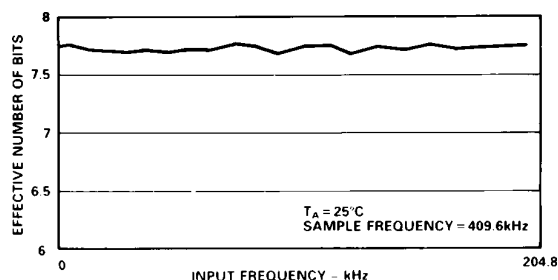

Figure 14. Effective Number of Bits vs. Frequency
This is for an ideal part with no differential or integral linearity errors. These errors will cause a degradation in SNR. By working backward from the above equation, it is possible to get a measure of ADC performance expressed in effective number of bits (N). This effective number of bits is plotted versus frequency in Figure 14. The effective number of bits typically falls between 7.7 and 7.8, corresponding to SNR figures of 48.1 dB and 48.7 dB.